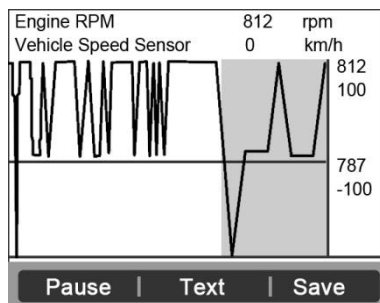

Figure 6-12
- If the “**Graphics**” on the bottom appears when a PID is highlighted, graphic information is available. Select **Graphics** to view graph. (Figure 6-12). PID name, current value, maximum and minimum values are displayed on the screen.